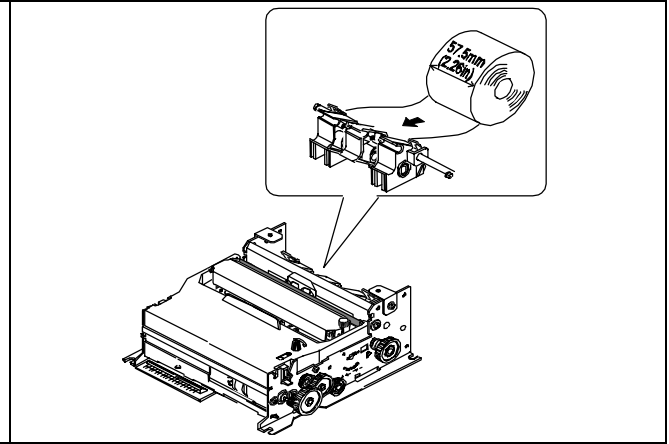

Figure 3-8. Inserting the Paper
4. Insert the paper in the notch in the Rewind Spindle as shown in Figure 3-8. Wind the Spindle three or four times to secure the paper on it.